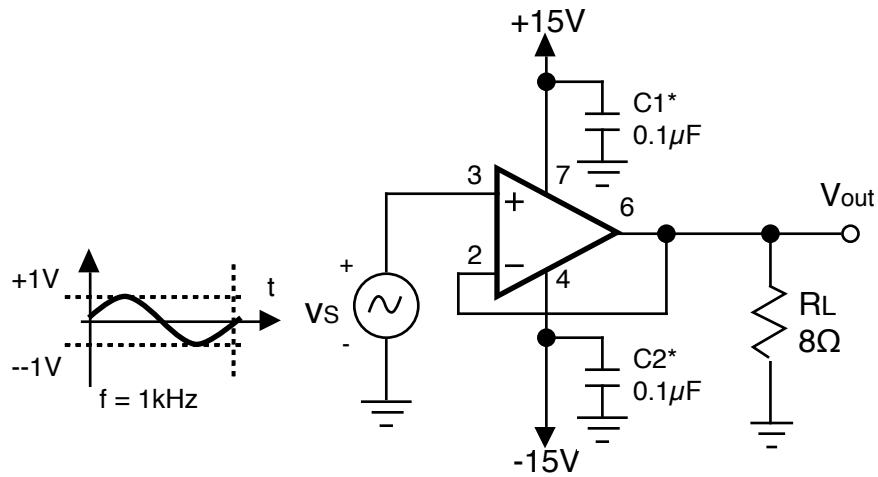

Fig. 2.4
Suppose we have a requirement to drive a 1V peak audio signal into a speaker. The audio signal can be represented as a 1kHz sine wave and the speaker as an 8Ω load resistance, as shown in Figure 2.4.
- P3.1 Suppose we try to use the LM741 in an op-amp follower as shown in Figure 2.4. What is the peak current required by the load from the op-amp output? How does this compare with the LM741 maximum output current of approximately 25mA? What would you expect for the actual output voltage if you built this circuit in the lab?
Construct the circuit of Figure 2.4. To simulate the 8Ω speaker load resistance, use a parallel combination of $10\Omega||51\Omega$. The input should be a 1kHz sine wave of peak amplitude 1V.